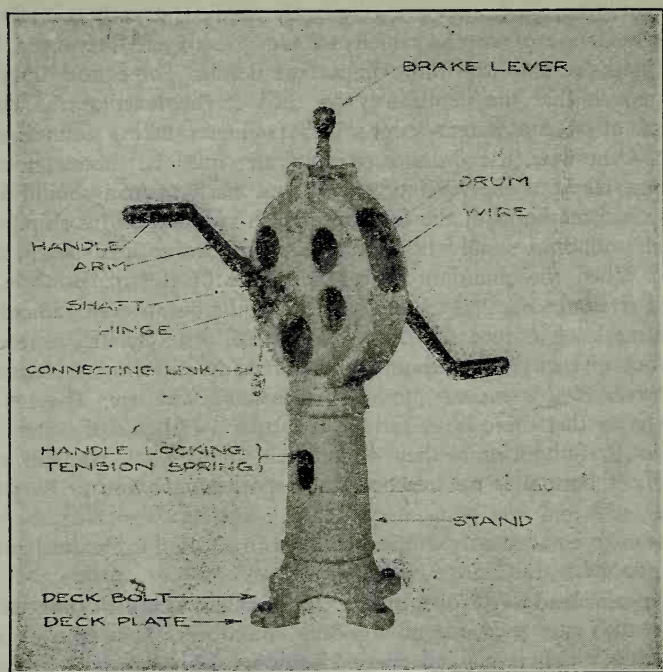

FIG. 38-6—Tanner-Blish sounding machine.
**Sounding machine.**—There are several types of sounding machines, but nearly all are able to take soundings because water pressure increases with depth at a regular rate. This principle is utilized by lowering to the bottom a ground glass tube or one which is chemically coated on the inside; these tubes are closed by a cap at the upper end. The ground glass, or chemical, retains a mark which indicates the point to which the water rose; by placing the tube against a scale, the depth which corresponds to this mark may be read. The ground glass tube, used in a Tanner-Blish machine (see Fig. 38-6), is the one usually seen. This type of tube can be dried out and used again, preferably after being washed out with fresh water, whereas the chemical-coated tube can only be used once, unless it is certain that the depth of water is greater than the last one recorded by it.